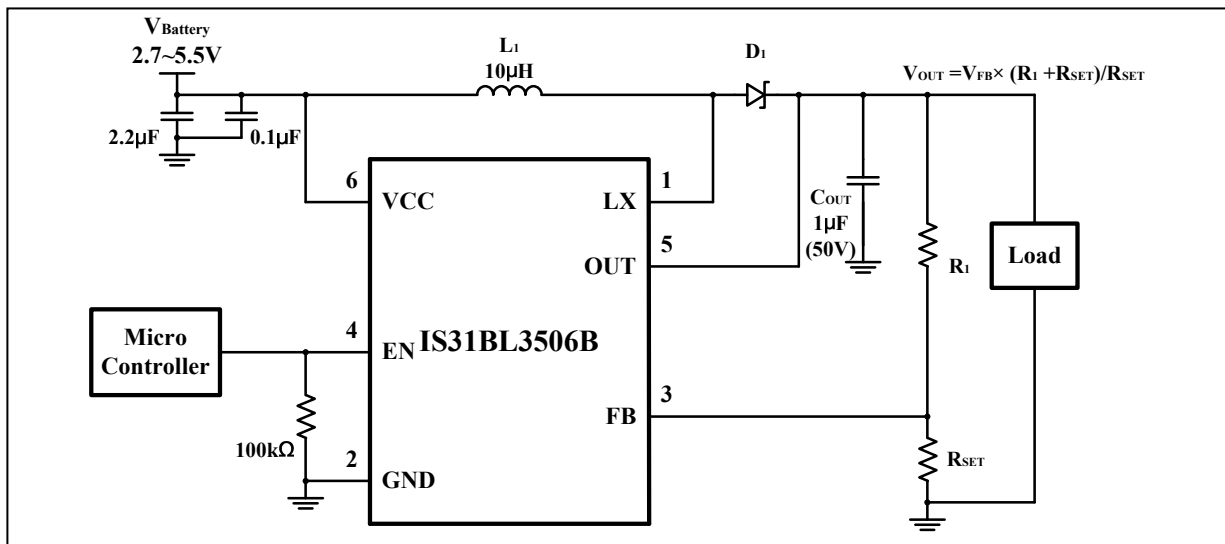

Figure 3 Constant output voltage for general purpose use
The IS31BL3506B can be configured to provide a constant output voltage (Figure 3). The output voltage level can be computed using the following equation, (5). The device internal V_{FB} is 0.2V (typ).